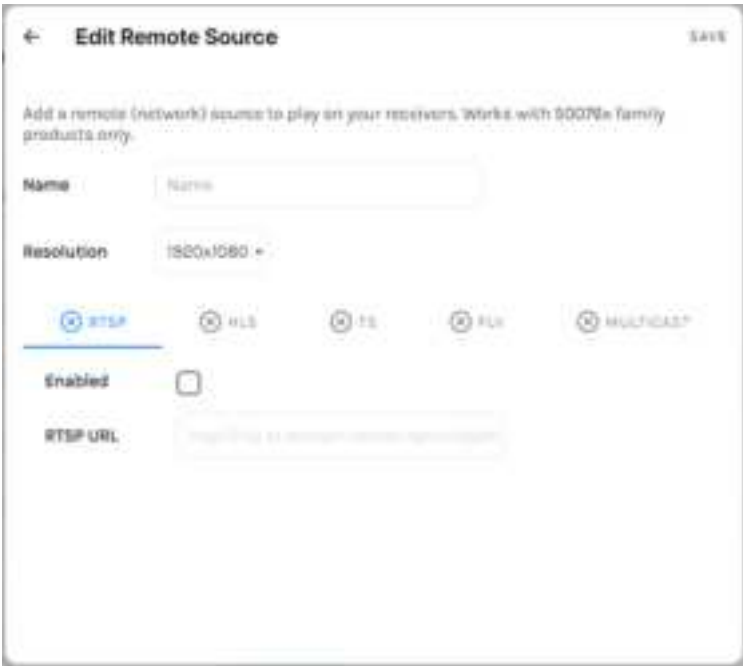

Figure 26
- G.)** : Clicking on the icon will allow you to add remote sources that can be played on your receivers. You need to give the remote source a name, select the resolution, select the protocol to use, and enter the corresponding URL of the remote source. Figure 26